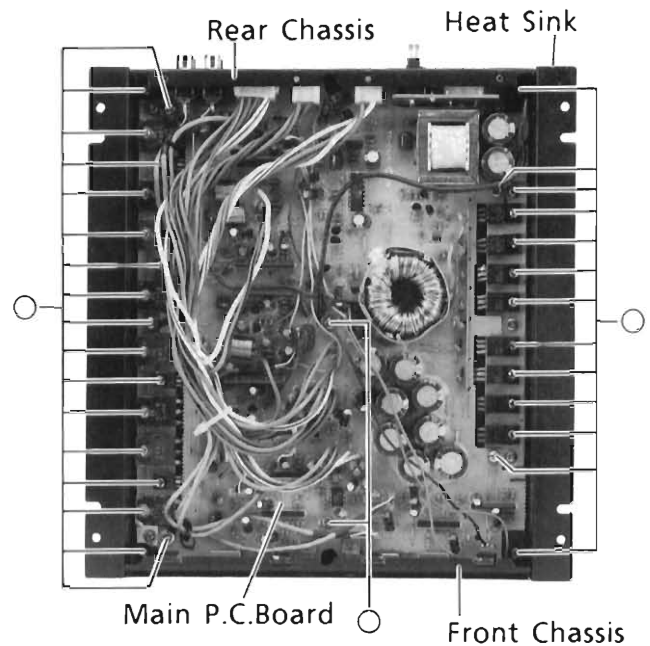

Figure 1
- (1) After removal of Bottom Cover, remove 32 screws marked "○" as shown in Figure 1. Then, the Main P.C.Board will be removed from Heat Sink together with Front, Rear Chassis and Power, LED P.C.Board.